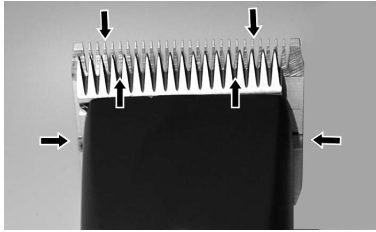

Fig. 22
To receive good clipping results and to increase the durability of the clipper and the clipperhead, it is necessary to apply a thin oil coat between top and bottom blade (fig. 22).
- ▶ Lubricate the blades sufficiently during the clipping (at least every 15 minutes), so that they do not drain (fig. 22).
The blades must be oiled before, during and after every use. When the blades of the clipper are leaving stripes or are running with reduced speed, this is a signal that oil is required. Place a few drops of oil ahead and laterally on the clipper blades (see arrows in fig. 22). Wipe off the excessive oil with a smooth, dry cloth. Lubrication sprays do not have sufficient oil for a good lubrication, but serve for cooling the blades. Immediately change damaged or creased blades to avoid injuries.